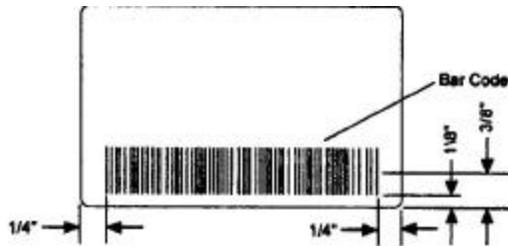

Figure 27: Bar Code Badge
- The bar codes should be facing the left side of the terminal's slot as shown in Figures 27 and 28.